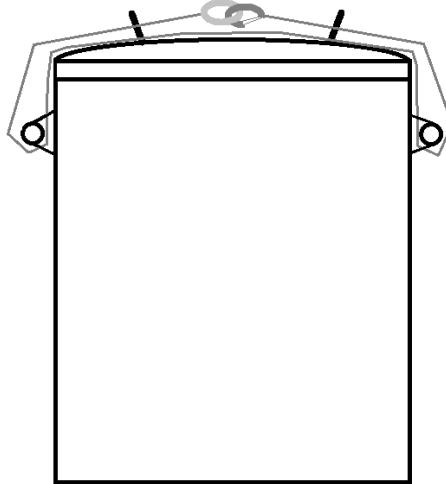

Figure 21: Safety Cable Installation
- Loop the safety cable through both lid handles and through the handles on both sides of the vessel and then back through the lid handles so the two ends meet then secure the two ends together (See Figure 21)